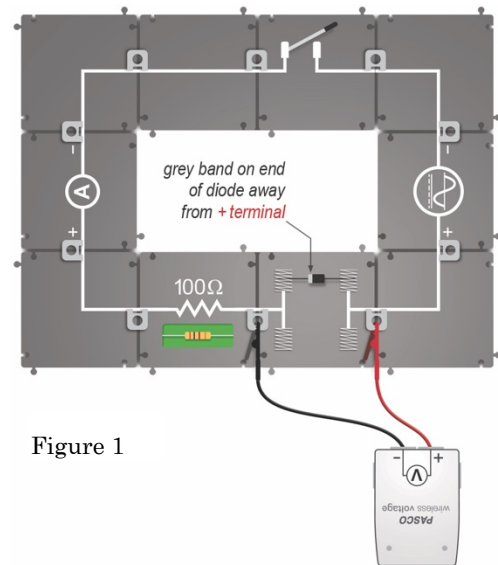

Figure 1
1. Construct the circuit shown in Figure 1 using the circuit modules, wireless current sensor module, and the wireless AC/DC module. Note the polarity of wireless current module connections. Leave the switch open for now.
2. Connect the diode found in the Modular Circuit Kit accessory bag to the spring clips. It is a small black cylinder with wires coming from each end. Make sure to connect the end WITHOUT the grey band to the + terminal of the wireless AC/DC module. See Figure 1.